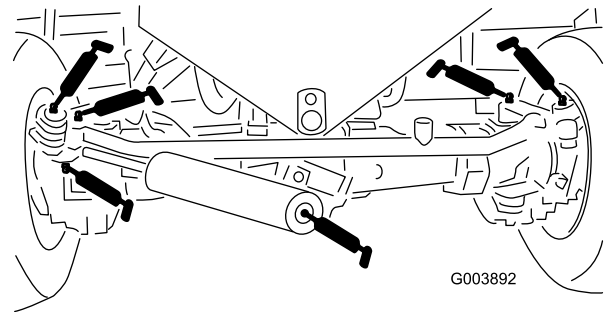

Figure 45
- 2 fittings on the rear axle tie rod (Figure 45)
- 2 fittings on the steering cylinder ball joints (Figure 45)
- 2 fittings on the axle steering pivots (Figure 45)
- 2 fittings on the rear axle pivot (Figure 45)